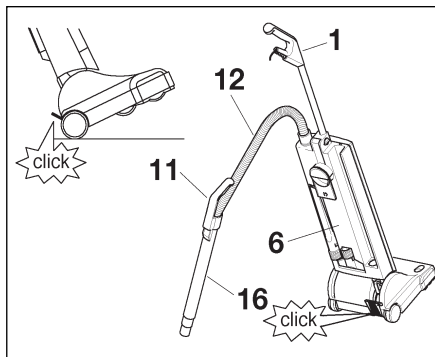

Figure 1
## Using the Attachment Tube, Hose & Attachments - Figures 1 & 2
The attachment tube (16) is useful for vacuuming corners and hard-to-reach areas. The handle grip (1) should be in the upright, locked position (**as shown in figure 1**). Grip the attachment tube handle (11), pull it up and away from the machine and stretch out the hose (12) until it locks (this locking action will prevent the hose from retracting back into the attachment tube while it is in use). Various attachments may be inserted onto the end of the tube. After use, remove attachment and re-insert the attachment tube into the back of the machine. **Be sure that the attachment tube handle (11) is inserted over the projection tab (see #22, page 5).** If the attachment tube handle is properly seated over the projection tab, the hose will automatically retract and you may resume vacuuming. There is no need to turn off the vacuum while switching from upright vacuuming to using the attachment tube or hose.